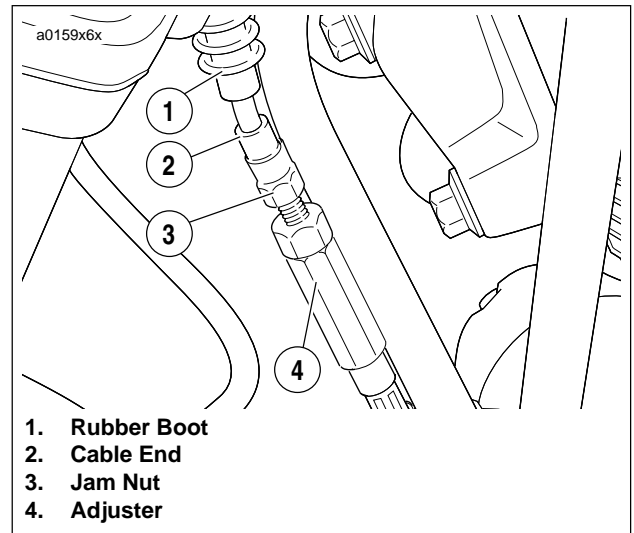

Figure 6-13. Clutch Cable Adjuster Mechanism
3. See Figure 6-13. Slide rubber boot (1) upward to expose adjuster mechanism. Loosen jam nut (3) from adjuster (4).
- b. See Figure 6-13. Set freeplay by turning adjuster (4).
- c. Tighten jam nut (3) against adjuster (4).
- d. Slide boot (1) over cable adjuster mechanism.